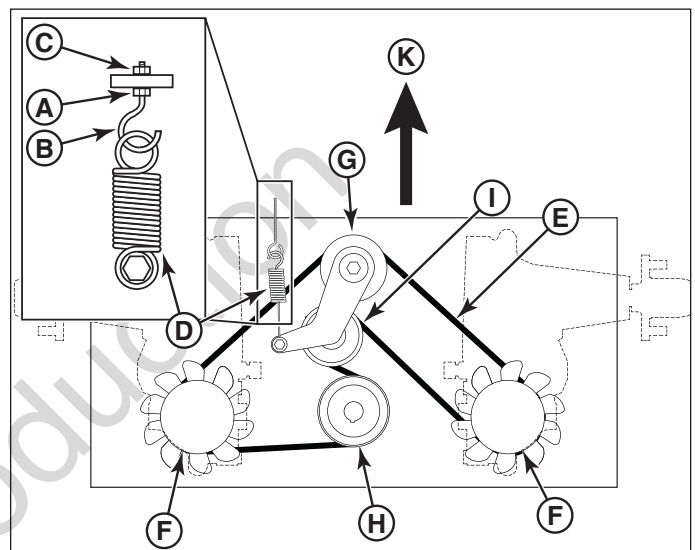
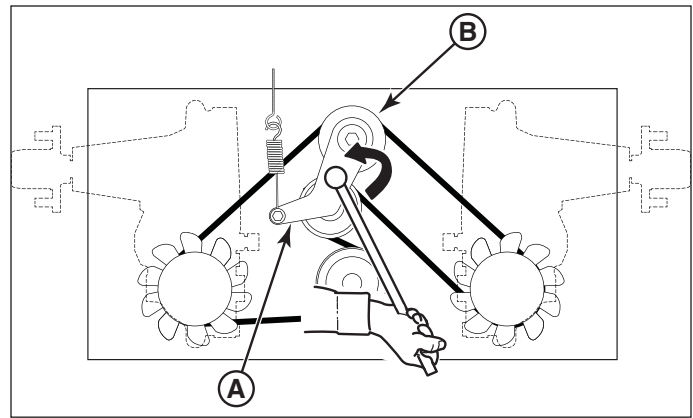
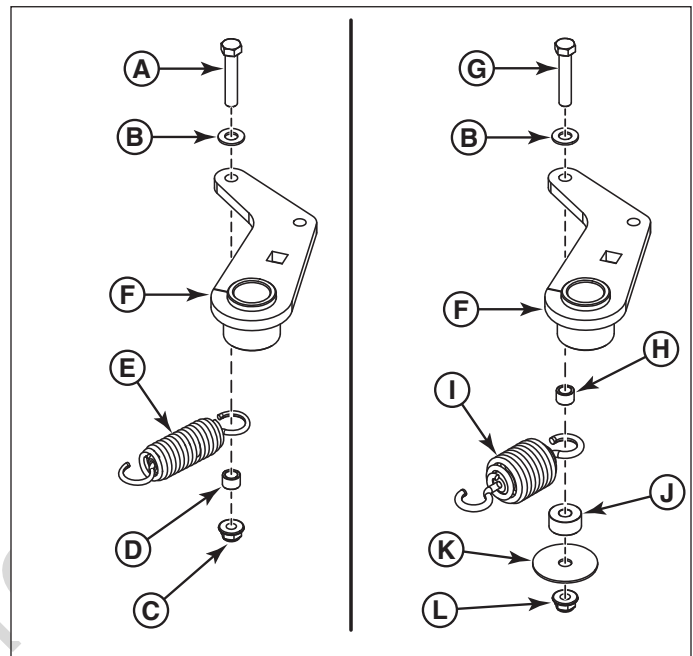
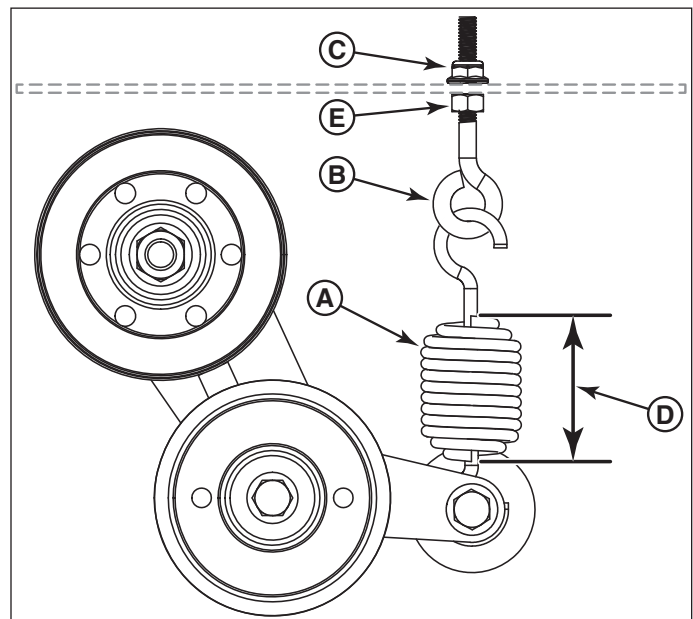

Figure 1. Transmission Drive Belt Routing
Figure 2. Rotating the Idler Arm with the Breaker Bar
Figure 3. Replacing the Transmission Drive Spring
Figure 4. Coil-to-Coil Spring Measurement
2. Loosen and jam nut (A, Figure 1) on the spring anchor eyebolt (B).
3. Loosen the adjustment nut (C) to release the majority of the tension exerted on the belt by the spring (D).
4. Using a 1/2" breaker bar, place the square end in the square hole located in the idler arm (A, Figure 2), carefully rotate the breaker bar **counter-clockwise**, which will relieve the tension on the belt exerted from the idler arm.
5. Slide the drive belt over the edge of the front stationary pulley (B). Carefully release the tension on the breaker bar.
6. Remove the belt from the adjustable idler pulley (I, Figure 1).
Figure 1 and Figure 2 depict the underside of the engine deck as viewed by looking up towards it. The arrow (K, Figure 1) indicates the front of the machine.
7. Disconnect the spring (D) from the spring anchor eyebolt (B).
8. Remove the hardware (A, B, C, Figure 3) and spacer (D) that secures the existing spring (E) to the idler arm (F). Discard the bolt (A), spacer (D), spring (E), and nut (C). Retain the washer (B).
9. Install the new 3/8" X 2" bolt (G) down through the existing 3/8 washer (B), the idler arm (F), the .39 X .55 X .38 spacer (H), the hook of the new spring (I), the .39 X 1.00 X .50 spacer (J), the .39 X 2.00 X .14 washer (K), and then secure with a nylock flange nut (L).
10. Connect the spring (A, Figure 4) to the spring anchor eyebolt (B).
11. Re-install the transmission drive belt (E, Figure 1) making sure that the V-side of the belt runs in the grooves of the transmission pulleys (F), and the crankshaft pulley (H). The back side of the belt should contact the face of the adjustable idler pulley (I).
12. Using a 1/2" breaker bar, carefully rotate the breaker bar **counter-clockwise**, and install the belt onto the front stationary idler pulley (G), making sure that the V-side of the belt runs in the grooves of the pulley.
13. Turn the adjustment nut (C, Figure 4) until the coil-to-coil measurement (D) of $3\text{-}3/8" \pm 1/8"$ (8.6 cm \pm 0.32 cm) is achieved.
14. Tighten the jam nut (E).